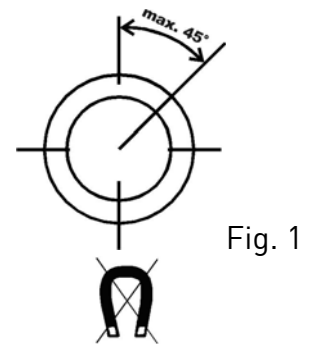

Fig. 1
- ☞ The switches should only be installed in a vertical position, deviation max. 45° (→ Fig. 1).